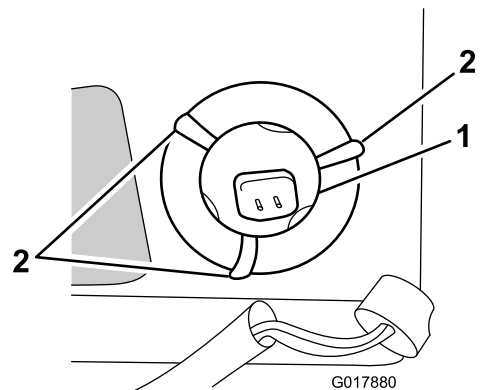

Figure 32
7. Bend the wire tabs in the metal sleeve (that hold the bulb in place) out of the way; refer to Figure 32.